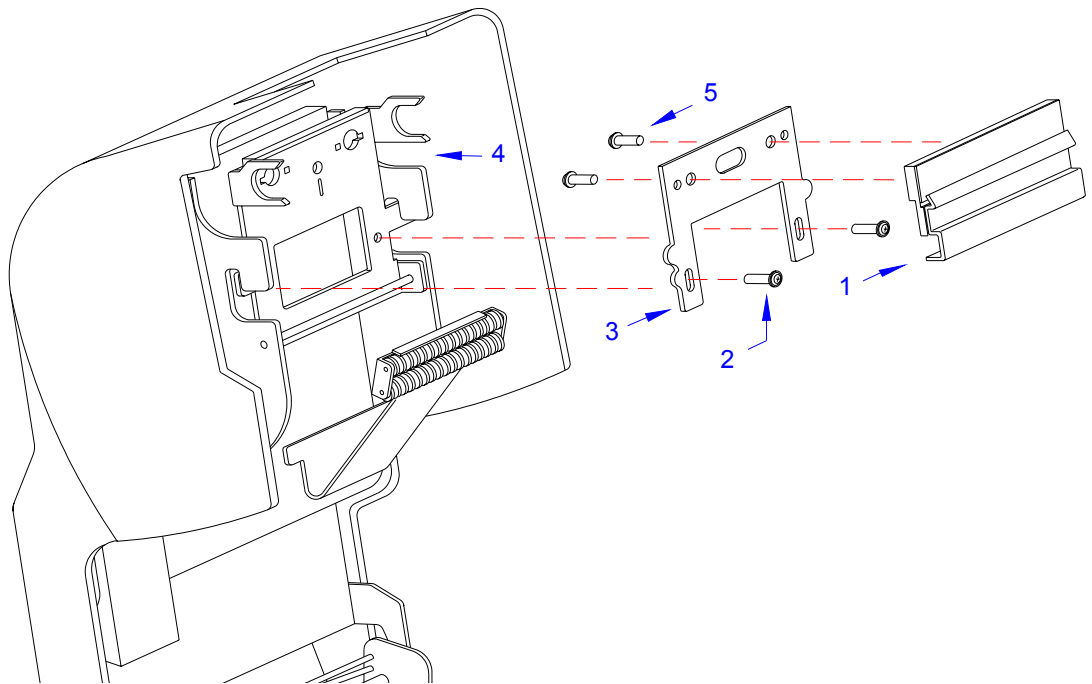

Figure 6-1, Print Head Replacement
- 2 Open the top housing cover to access print head (1, Figure 6-1).
- 3 Remove two screws (2) securing print head mounting plate (3) to top frame assembly (4).
- 4 Disconnect the print head wiring harness from print head (1).
- 5 Remove two screws (5) securing print head (1) to mounting plate (3).
- 6 Lift away damaged print head (1) and install replacement print head (1) in its place.
- 7 Secure replacement print head (1) to mounting plate (3) using two screws (5).
- 8 Connect the print head wiring harness to print head (1).
- 9 Secure mounting plate (3) to top frame assembly (4) using two screws (2).